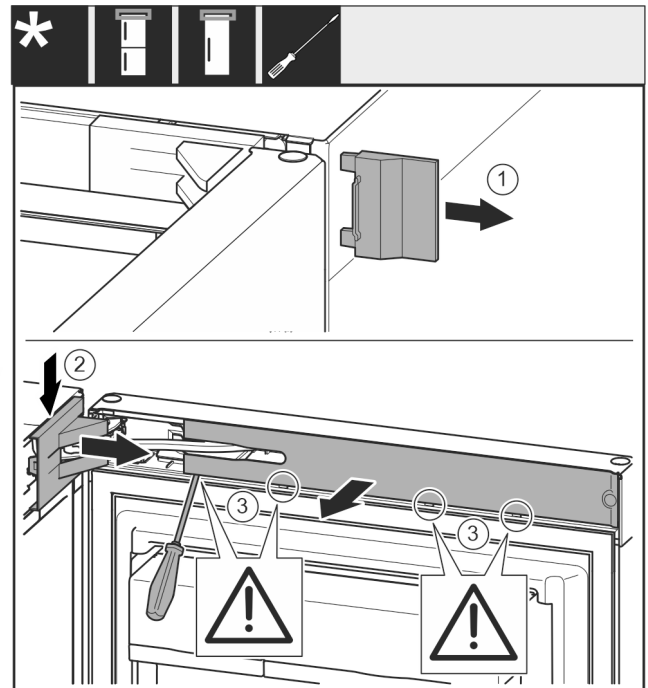

Fig. 7
► Remove the outer cover. Fig. 7 (1)
► Disengage and release the bearing bracket cover. Remove the bearing bracket cover. Fig. 7 (2)
- ▶ Unlatch the panel with a slotted screwdriver and swivel it to one side. *Fig. 7 (3)*